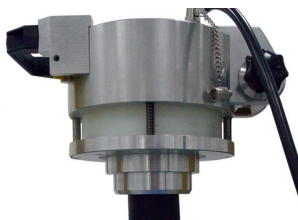

Fig. 11
- Expanding the housing **(2)** (see Fig. 11) adjusts the saddle surface to the pipe contour.